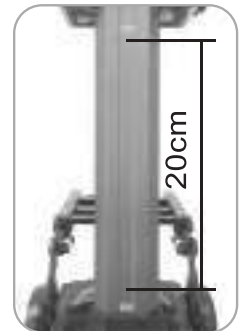

Figure 19
- There is a stop point on tiller, the height cannot exceed the stop point (approx. 20cm) (Figure 19)